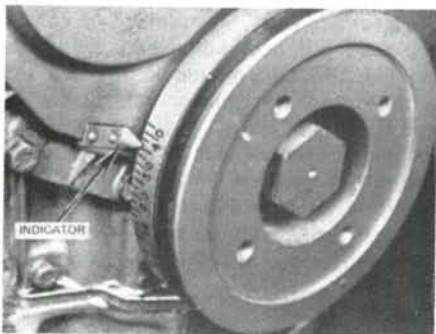

Fig. 145—View of indicator and degree marks on crankshaft pulley on gasoline engines.
**135. TIMING.** Timing marks are located on the crankshaft pulley as shown in Fig. 145. Initial (static) timing should be 12° BTDC for AG4.212 engine used in MF255 models; 11° BTDC for AG4.236 used in MF265 models. Maximum advance should be 36 crankshaft degrees BTDC above 2000 rpm for